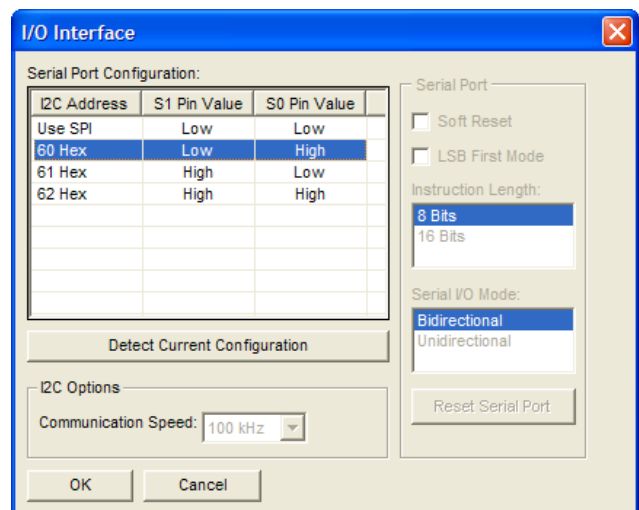
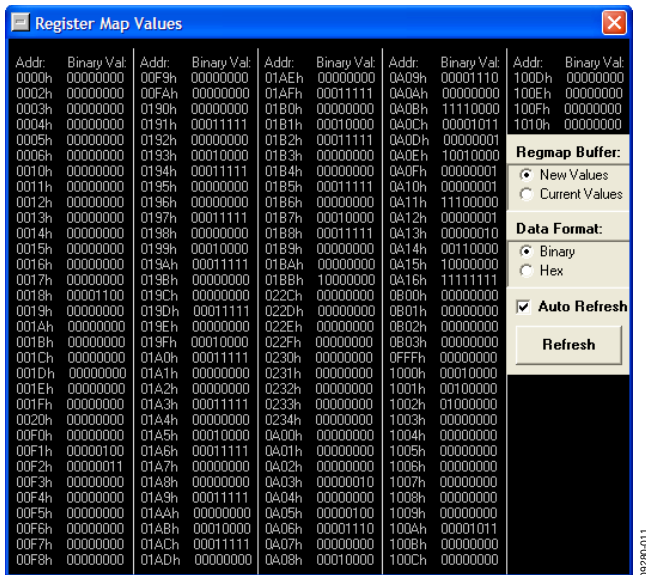

Figure 8. Serial Port Configuration Window
Figure 10. Register Map Window
7. Click the **Reset Serial Port** button, and then click **Detect Current Configuration** (see Figure 8). A dialog box should appear to acknowledge the I²C mode and address.
Selecting **Configure Serial Port** from the **I/O** menu allows you to control how the USB controller interacts with the AD9523-1 serial port (see Figure 8) by configuring Register 0x0000 (shown as 0000h in Figure 10).
The **Register Map Values** window, accessed by selecting **Register Map Window** from the **View** menu, allows you to read registers (see Figure 10).